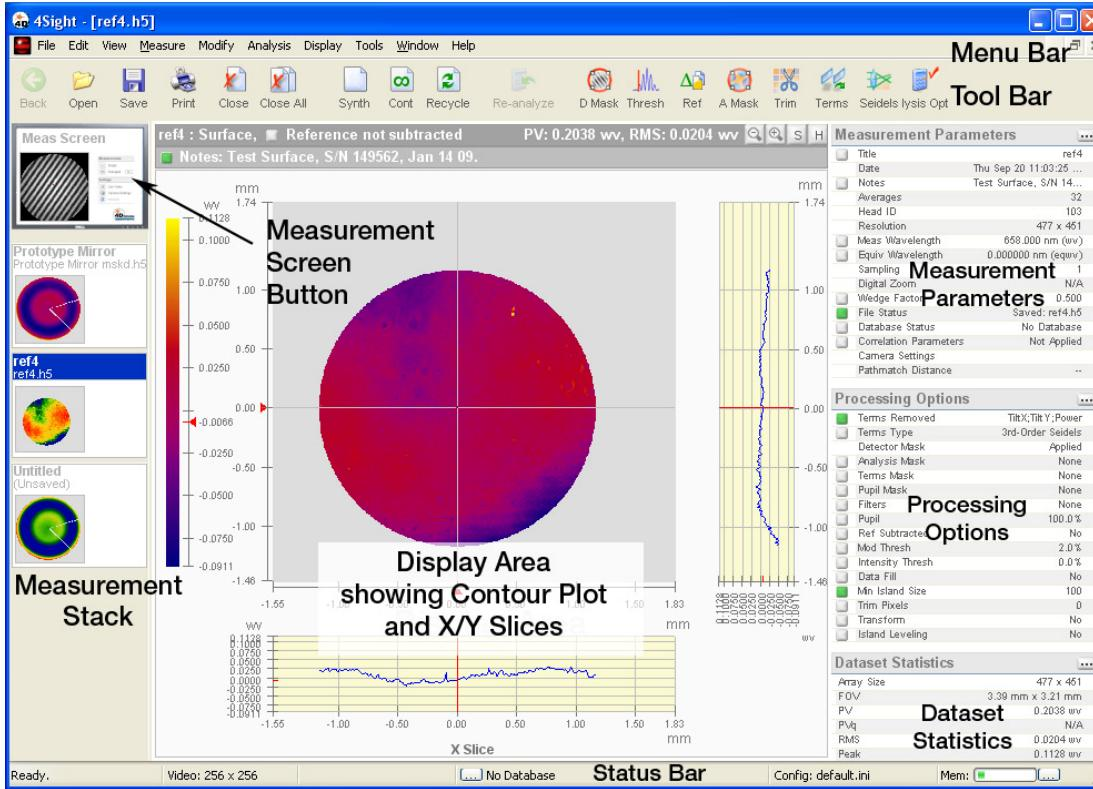

Figure 2: 4Sight screen layout.
*Figure 2* shows the 4Sight interface and its major features: the menu bar, toolbar, display area and Measurement Stack. Each of these areas will be described in detail below.